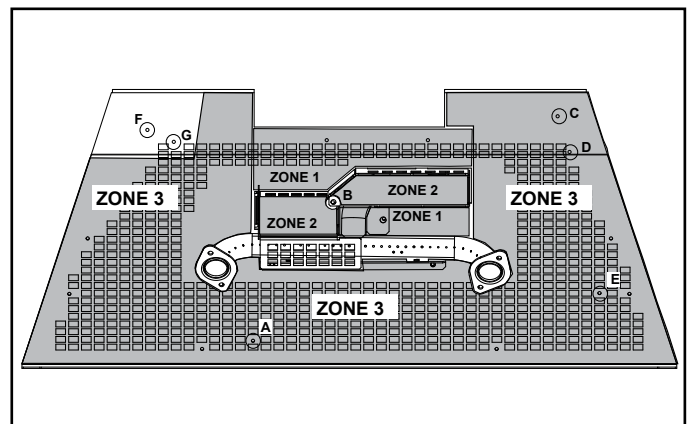

Figure 11 Zone 3 Media Placement
**MEDIA:** Place media on the right side, along the front of the base pan and on the part of the left side noted as Zone 3 in Figure 11.